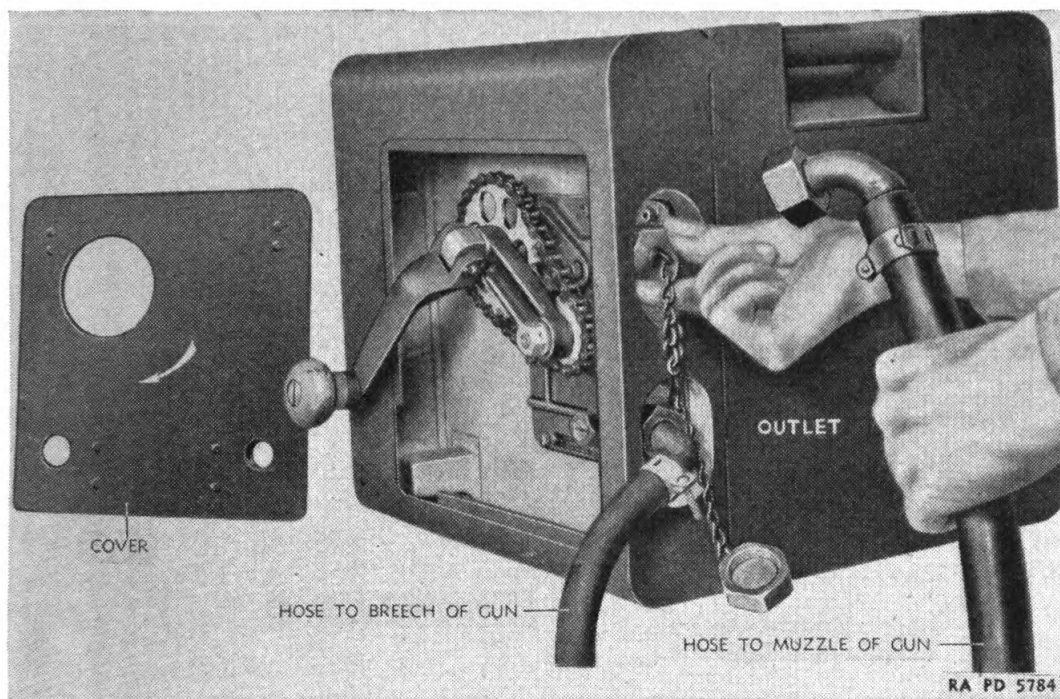
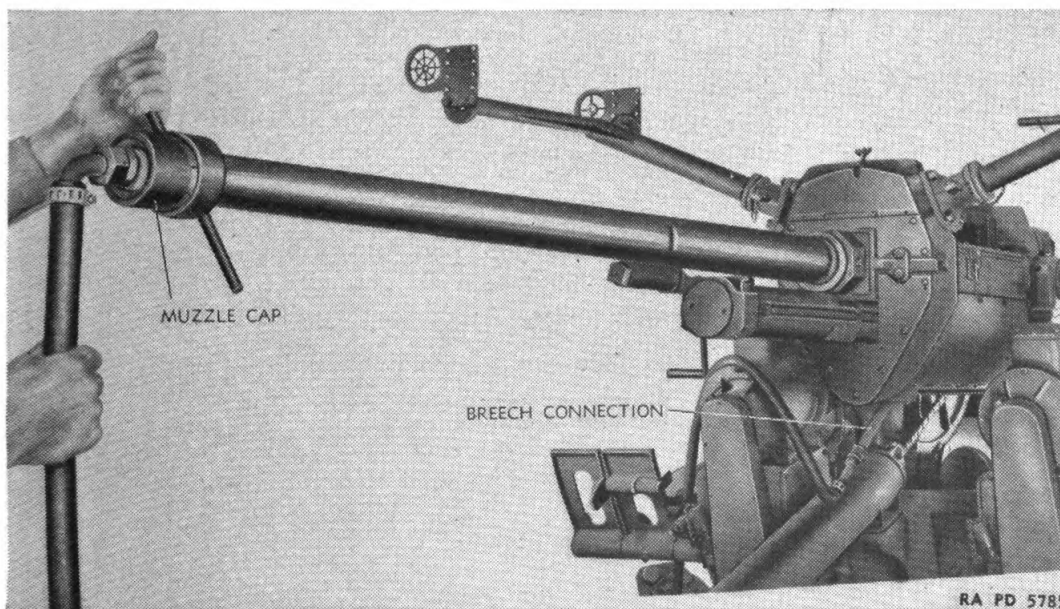
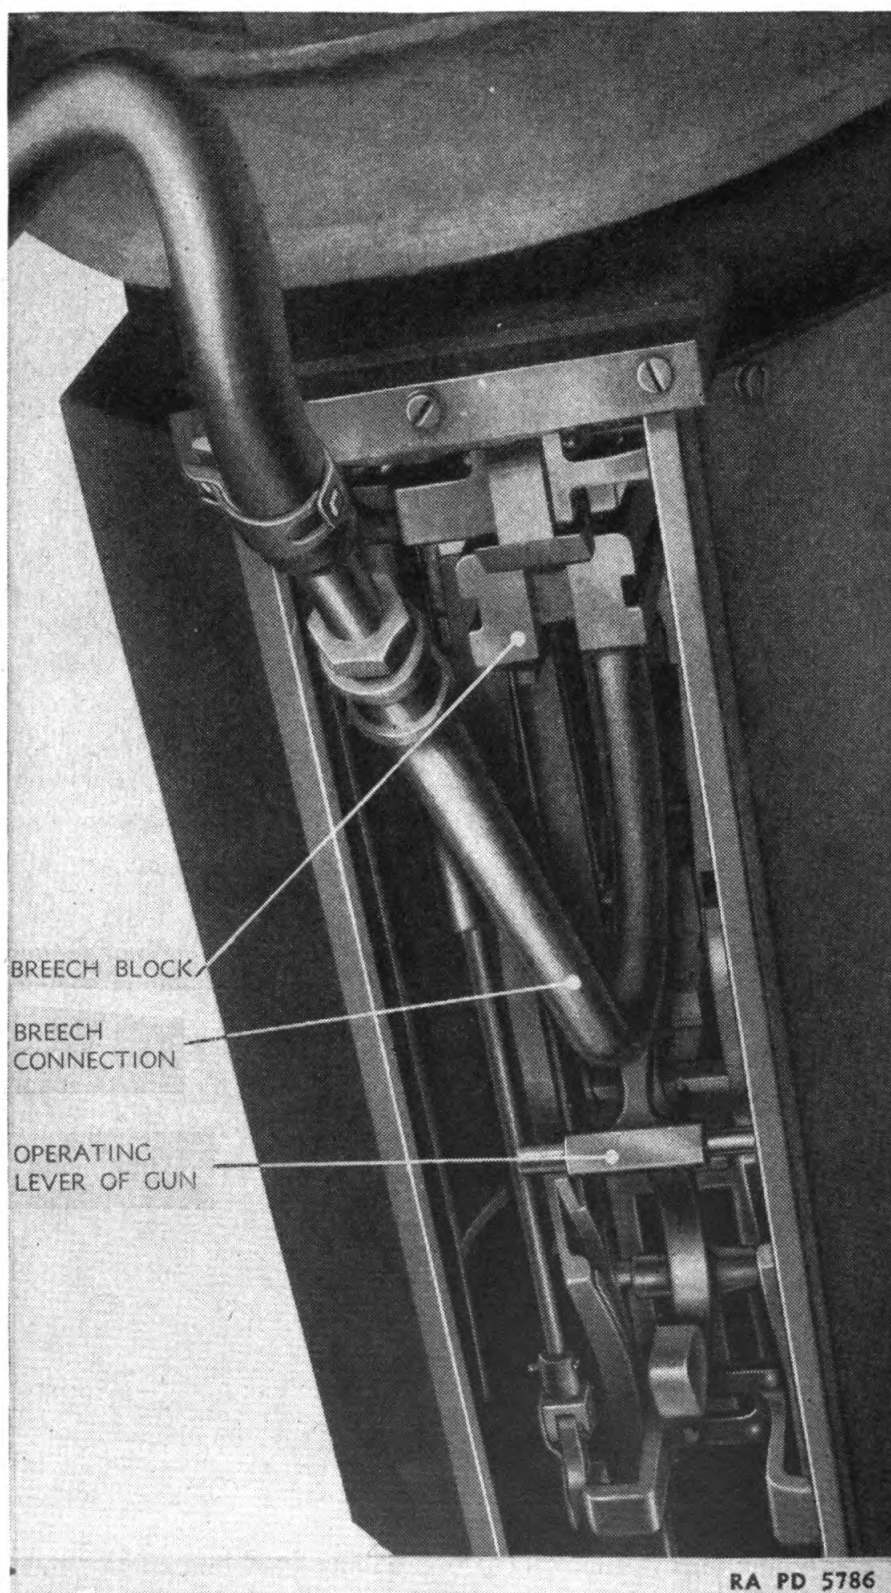

FIGURE 44.—Connections to caliber .50 water chest M3.
FIGURE 45.—Securing muzzle cap of cooling system.
FIGURE 46.—Installation of breech connection of cooling system.
*b. To cool gun tube.*—(1) Fill water chest with clean water. The chest capacity is 8 gallons.
(2) Remove caps from the inlet and outlet connections of the water chest.
(3) Connect the hose attached to the long curved brass pipe (the breech connection) to the outlet connection of the water chest.
(4) Connect the hose attached to the muzzle cap (fig. 44) to the inlet connection of the water chest. *Do not connect to the muzzle at this time.*
(5) Raise the carrier, then pull the lock frame to the rear until caught by the carrier dog, and elevate the gun to about 30°.
(6) Lift the breech connection up through the bottom of the gun and insert it into the breech opening through the tube extension as far as it will go.
(7) Ease the lock frame forward slowly so that the operating lever will hold the breech connection in place (fig. 46).
(8) Remove cover from the water chest, place the pumping handle into position, and pump water up into the gun tube so that the tube is full of water. The pump handle should be turned clockwise as indicated by the arrow on the water chest cover.
(9) When steam stops coming out of the tube, connect the muzzle cap to the tube. The cap should be placed over the muzzle and the handle turned clockwise to tighten the cap in place (fig. 45).
(10) Pump water through the gun tube for 2 or 3 minutes or until a man can place his bare hand lightly on the gun tube without being burned.
(11) When the tube has been cooled open the hand hole in the top of the water chest.
(12) Disconnect the muzzle connection from the gun and allow the water to drain back into the chest.
(13) Turn the pump handle counterclockwise until the water in the gun tube is pumped into the chest.
(14) Pull the lock frame to the rear and remove the breech connection.
(15) Allow the gun tube to drain and thoroughly dry it.
(16) Coat the bore with oil, engine, SAE 10 below 32° F. or SAE 30 above 32° F.
**38. To unload.**—*a. To remove ammunition clip.*—(1) Fold back feed box cover.